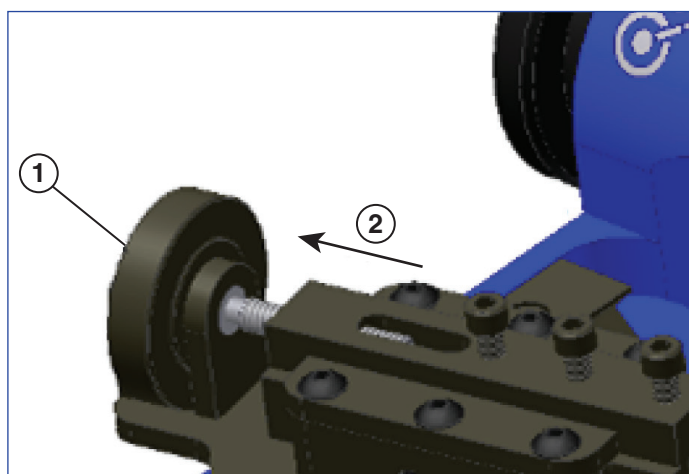

Figure 9
- Turn the depth adjustment screw to position the tool block in the retracted position (see Figure 9).